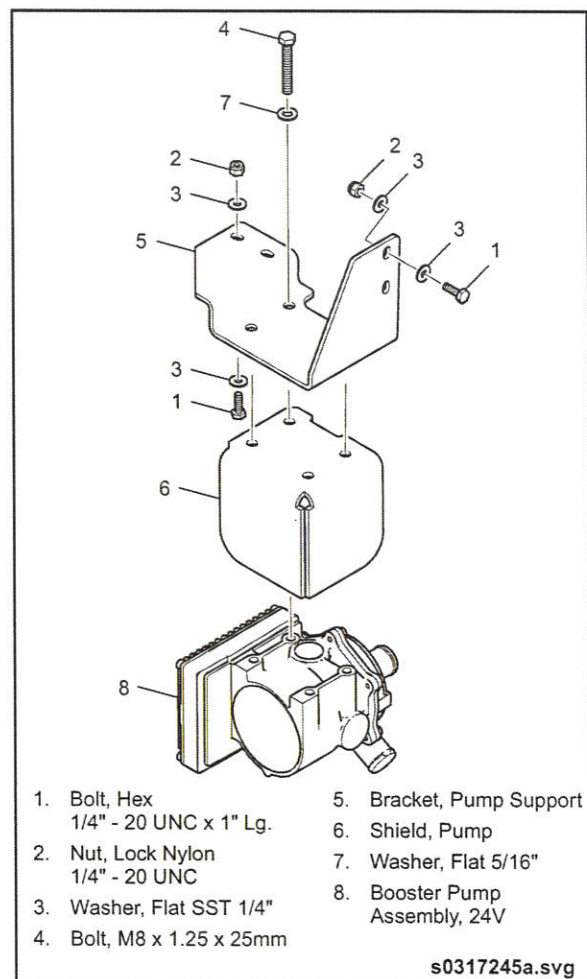

Fig. 10-9: Booster Pump & Lines Installation
3. Disconnect electrical connections. See "Fig. 10-9: Booster Pump & Lines Installation" on page 21.